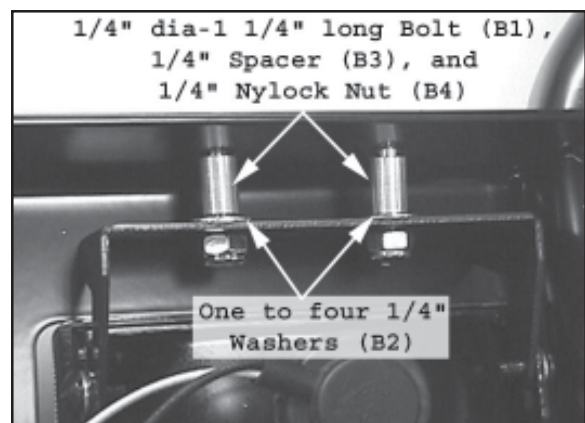

Figure 3 Install Trail Light
2. Attach the trail lights and light brackets to the bumper using 1/4" dia-1 1/4" long Bolts (B1), 1/4" Spacers (B3), and 1/4" Nylock Nuts (B4) as shown in Figure 3. One to four 1/4" Washers (B2) may be added under each spacer to better align the light with the opening in the bumper.